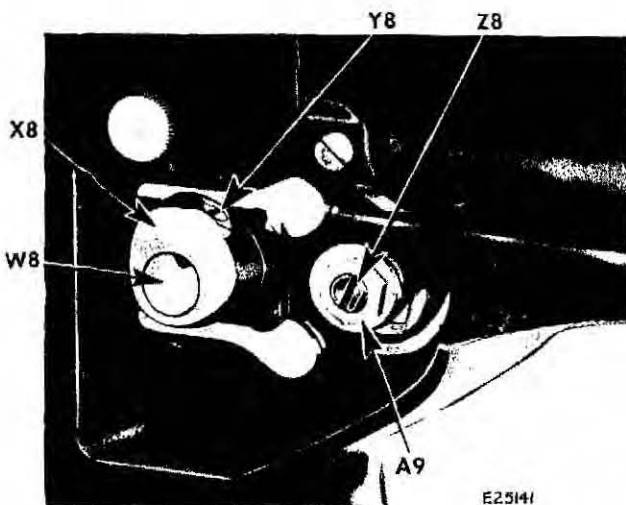

Fig. 162. Removing and Replacing Cam
3. Loosen lock nut **A9**, Fig. 162 on fulcrum stud **Z8**.
5. Hold fulcrum stud **Z8**, Fig. 162 in position with a screwdriver to keep the correct setting obtained and carefully tighten lock nut **A9** with a wrench.
6. Remove gauge **B9**, Fig. 163 and position cam **X8**, Fig. 162 on shaft **W8** with set screw **Y8** over the notched shaft.
7. While pressing cam **X8**, Fig. 162 toward fork, push gear in Fig. 165 toward cam with a screwdriver to eliminate excessive play and noise. Securely tighten screw **Y8**, Fig. 162 without binding machine.